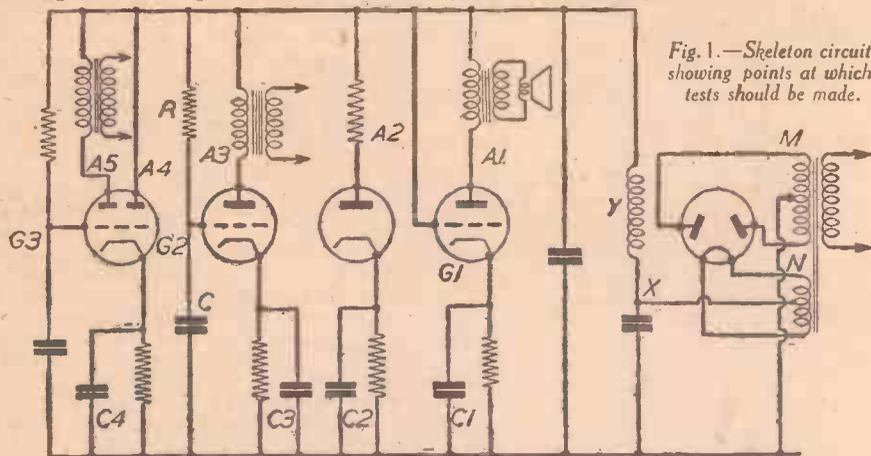

Fig. 1.—Skeleton circuit showing points at which tests should be made.
Broadly considered, the networks of Figs. 1 and 3 include two acceptor circuits, C_1L_1 and C_4L_4 , tuned to the centre of the desired frequency band, and two rejector circuits, C_2L_2 and C_3L_3 (Fig. 1), tuned respectively on the opposite sides of the pass band. As indicated by the curve of Fig. 2, this well-known circuit gives a flat top or three slight peaks with steep sides in the pass band part of the frequency-amplitude characteristic. With high-loss reactors or with a narrow pass band, the shoulders of this characteristic tend to droop. Regeneration of the rejector circuits C_2L_2 and C_3L_3 functions to maintain the desired flat pass band characteristic irrespective of the reactor losses and the pass band width.
The network of Fig. 1 includes an electron discharge amplifier 10 which is provided with input terminals 11-12 and with output terminals 13-14 coupled through reactor-capacitor units C_1L_1 and C_4L_4 to the input terminals 15-16 of an amplifier 17. A resistor R_1 of the order of 100,000 ohms may be connected in shunt to the reactor L_1 for reducing the centre peak of the curve of Fig. 2 to about the same height as the other two peaks, and a resistor R_2 , which may be smaller than the resistor R_1 , may be connected in shunt to the reactor L_4 .
The modified network of Fig. 3 differs from that of Fig. 1 in that the two shunt rejector circuits C_2L_2 and C_3L_3 are replaced by a shunt circuit which includes a capacitor C_7 and a reactor L_7 connected in series with the parallel connected capacitor C_8 and reactor L_8 . In this modification, the parallel resonant circuit is regenerated through means including a single amplifier 27, a cathode lead resistor 28, and the tickler coil L_5 which is inductively coupled to the reactor L_8 .
In lining up a single stage filter such as that of Fig. 1, a signal generator is connected to the grid of the amplifier valve and a valve voltmeter is connected to the output of the filter. The first operation is to line up the rejectors for maximum attenuation at the rejection frequencies. This involves adjusting both tuning and regeneration for maximum attenuation. The two acceptor circuits L_1C_1 and L_2C_2 are then tuned for maximum response in the centre of the pass band. Alignment may be found easier if less than optimum damping is used for this preliminary tuning adjustment. A head and shoulders curve will then be obtained in the pass band. The steps involved in correcting this to the desired shape are indicated in Fig. 5.
Measure the H.T. voltage at the point X (Fig. 1). Low volts will indicate: (1) a faulty rectifier; (2) a faulty mains transformer; or (3) a heavy current drain on the rectifier due to excessive leakage or breakdown of a condenser.